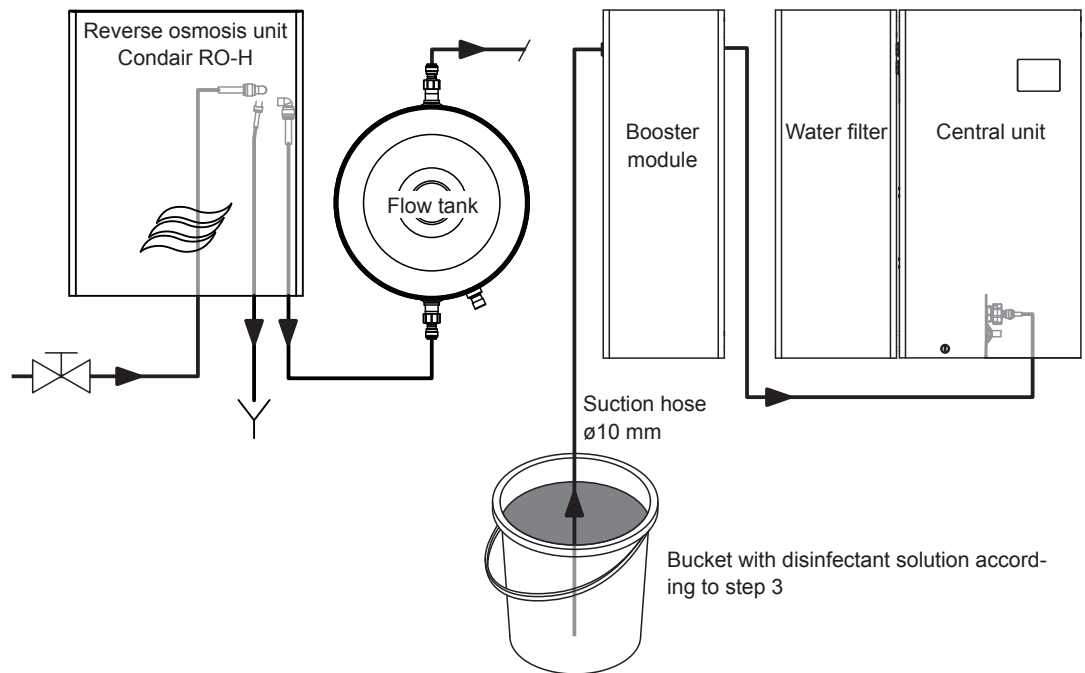

Fig. 49: Schematic diagram of the hose layout for disinfection of MN single system with RO-HB
- Disconnect the hose from the flow tank from the connection on the booster module. Immerse a suction hose $\varnothing 0.39''$ ($\varnothing 10\text{ mm}$) into the bucket with the disinfectant solution and connect it to the connection of the booster module (see Fig. 49).